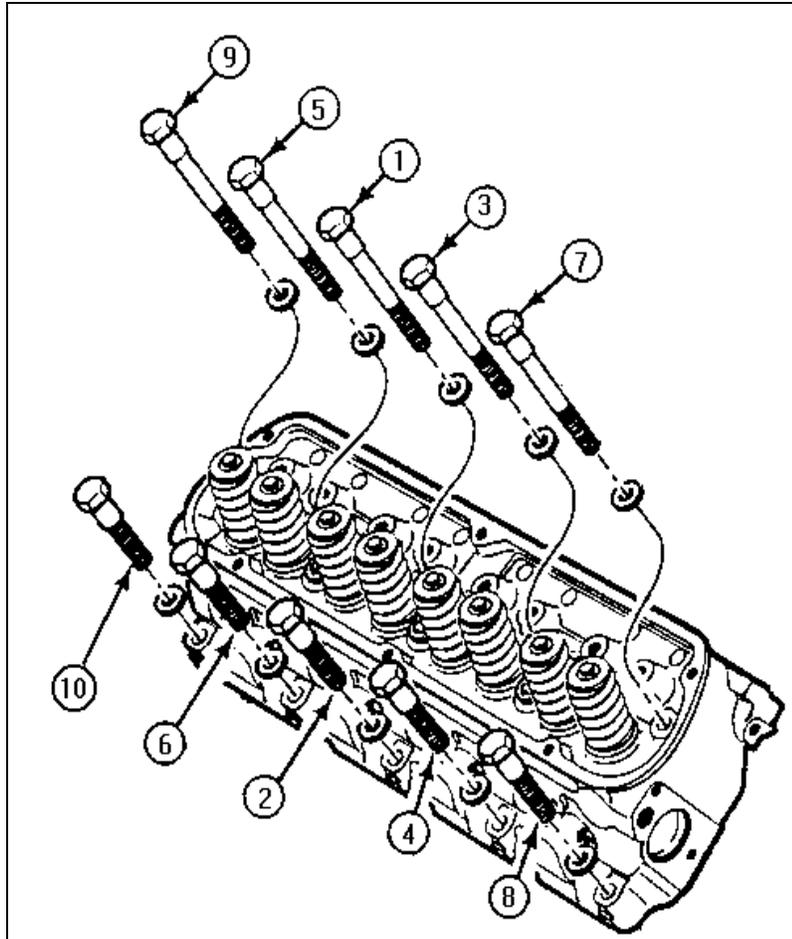

Figure 1 - Torque Sequence
- STEP 4:** Install the GT-40 heads on engine block and install mounting bolts. Torque in 3 steps using the shown in Figure 1. **Use the appropriate torque specs for your application. NOTE: Ford Racing Kit (M-6051-A50) and late model production applications use torque to yield bolts.**